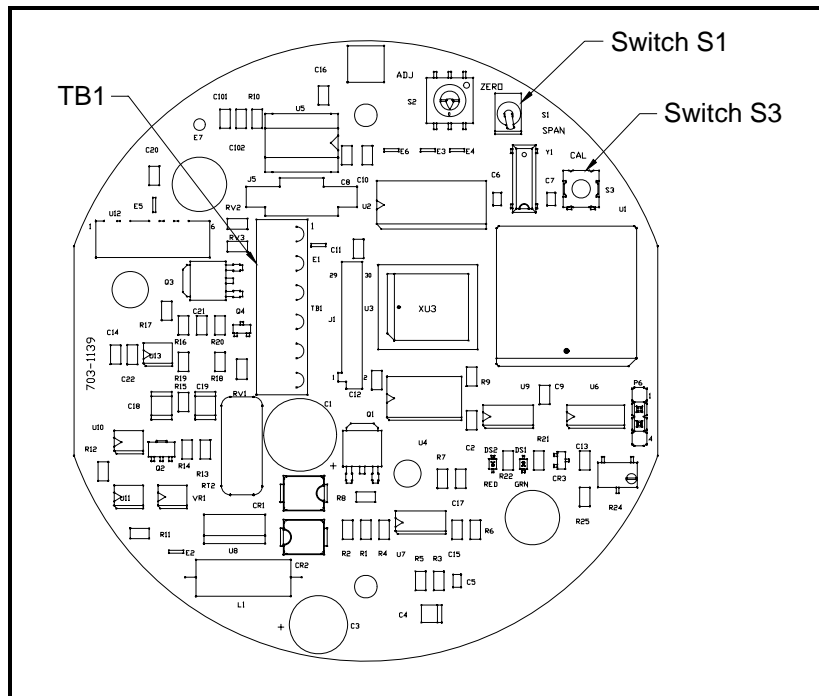

Figure 3-2: PCB #703-1139 Calibration Switches
To perform the offset gas pushbutton calibration, refer to Figure 3-2 below and complete the following steps:
1. By referring to Figure 3-2 on page 3-4, locate terminal block TB1. Connect the positive lead of an ammeter to Pin 3 on TB1 and connect the negative lead of the ammeter to Pin 4 on TB1.
4. Using Figure 3-2 on page 3-4 as a guide, locate the *Calibration Pushbutton* (Switch S3). Depress the *Calibration Pushbutton* and hold it down for 20 seconds. During this time, the green light below the *Calibration Pushbutton* will go out.